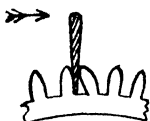

Fig. 71.—
**Correcting Bent Teeth.**—Bent teeth in barrel or train wheels do not often occur in modern watches, but they do occasionally. The blade of a pocket-knife is the best tool for correcting them, Fig. 71 showing a section of the little blade of a knife inserted between the teeth. A purchase is got against the firm root of the next tooth, while the blade is tilted over in the direction of the arrow to lift up the bent tooth.